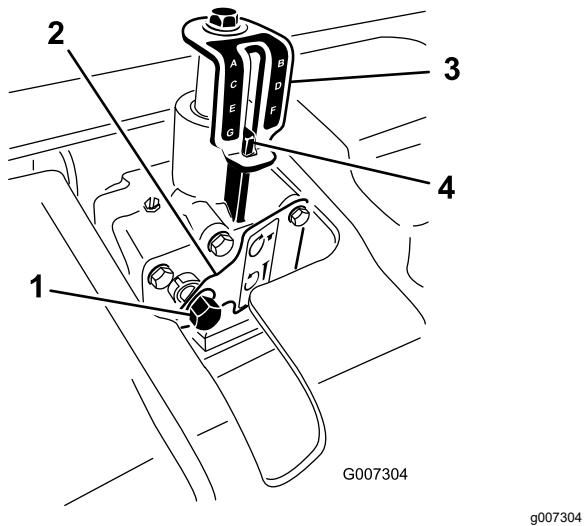

Figure 23
- Insert a 9/16-inch socket with a ratchet onto the depth adjuster input shaft (Figure 23).
5. Rotate the depth adjuster clockwise to reduce the aeration depth or counterclockwise to increase the aeration depth. (Figure 23).
6. Rotate the depth adjuster input shaft until the desired depth is attained as shown on the depth indicator decal (Figure 23).